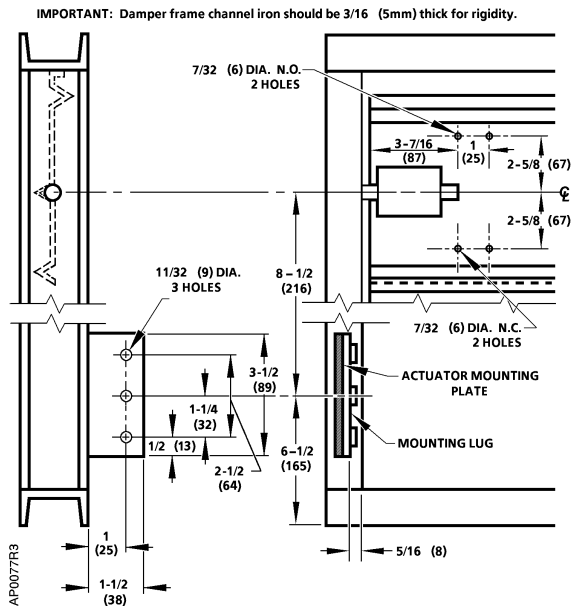

Figure 6. Frame Mounting Dimensions. Dimensions in Inches (Millimeters).
2. Weld the mounting lug parallel and 5/16-inch (8 mm) from the inside edge of the damper frame and perpendicular to it (Figure 6). Weld the lug along both sides. The lug should be as close as possible to the corner of the damper frame to minimize deflection. The damper manufacturer should weld the lug.
4. Attach rocker to blade in proper position for normally open or normally closed damper (Figure 6).